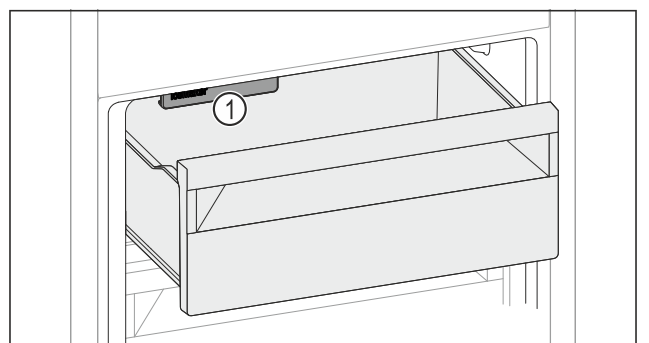

Fig. 157
- Watch out for the IceMaker Fig. 157 (1).